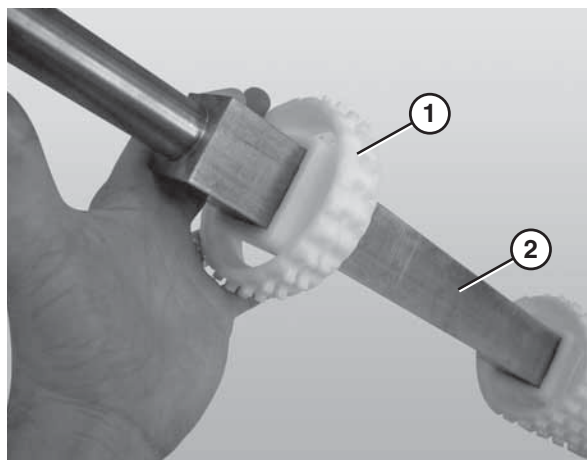

Figure 74
10. Slide the sprockets (**Figure 74, item 1**) off the drive spindle (**Figure 74, item 2**).